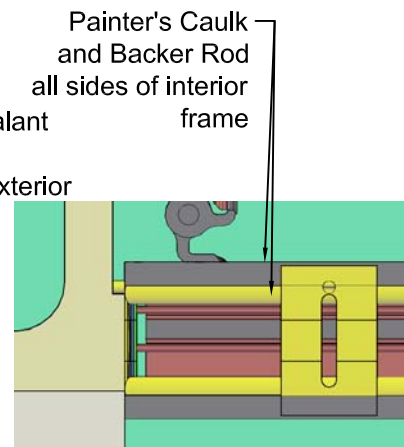
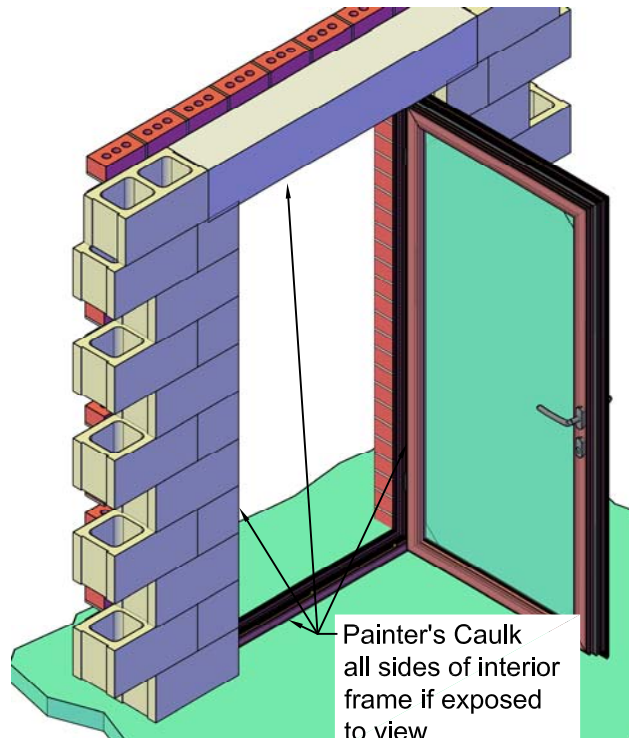

Fig. 13
Fig. 15 Viewed from Building Interior
13) Sealing the interior perimeter joint is cosmetic in nature and not required for Air/Water/Structural performance of the window. Painter's caulk is only required on the interior side if the shim stacks will not be concealed by drywall or sill stool, or other casework. See Fig. 13 & Fig. 15